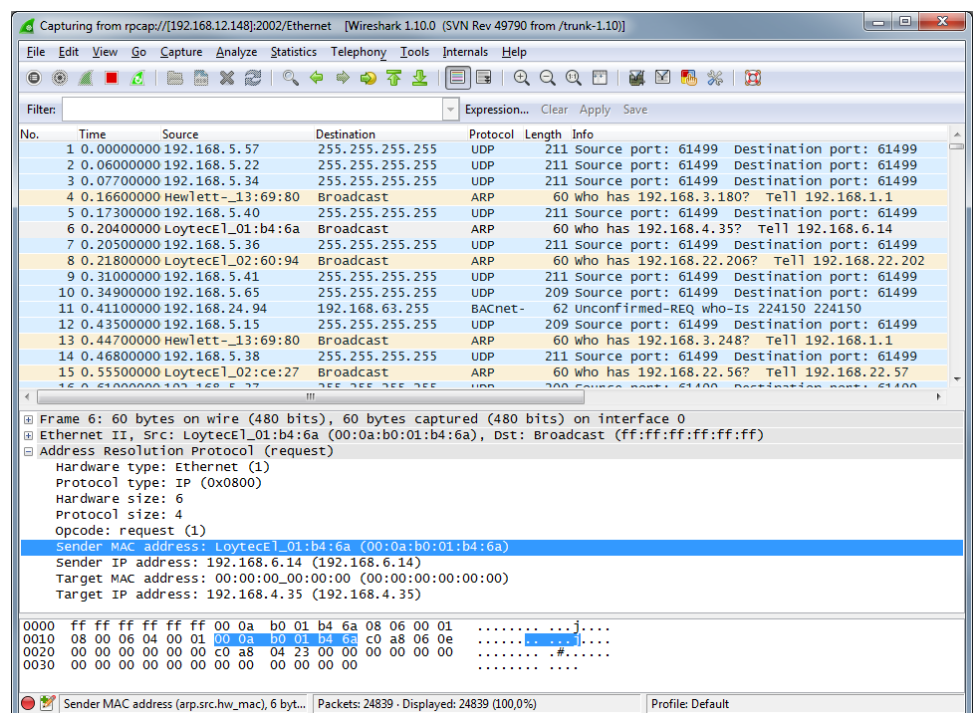

Figure 186: Example remote capture in progress.
- Wireshark will attempt to establish a connection to the device and, if successful, start displaying packets. An example capture is shown in Figure 186.